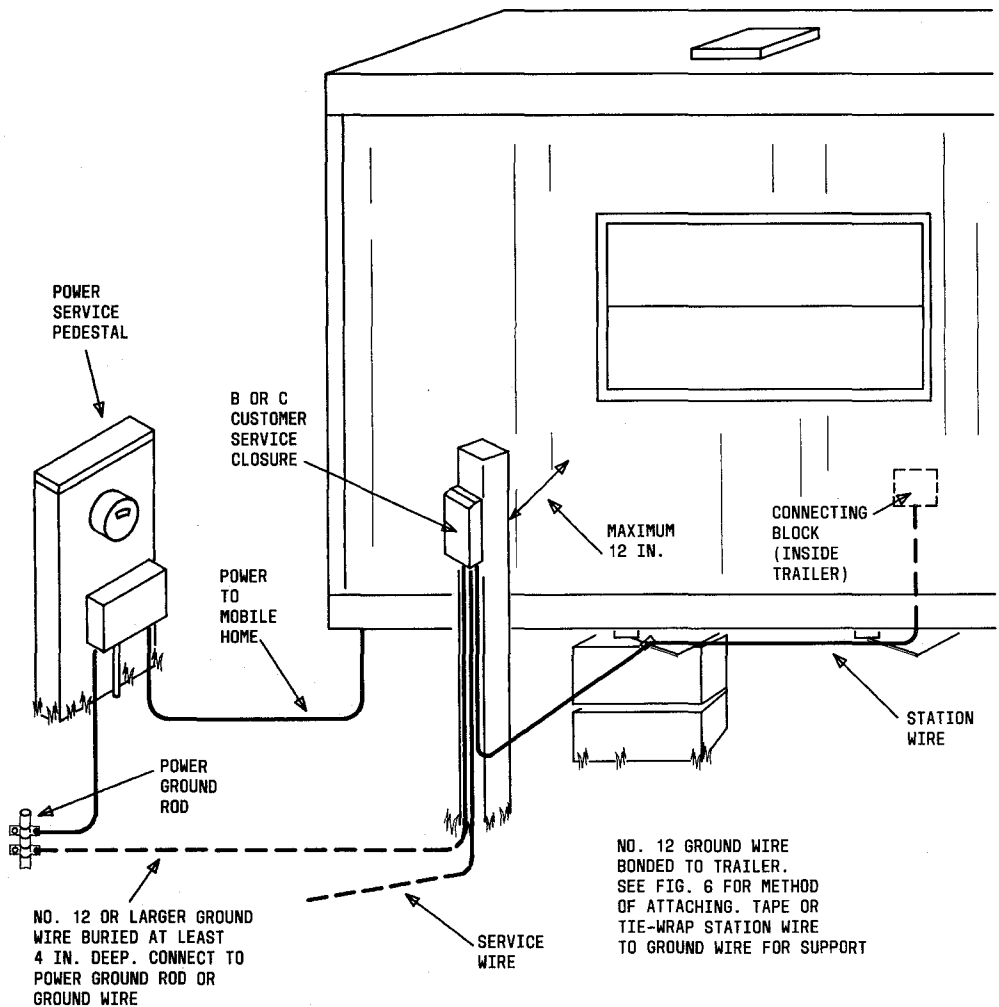
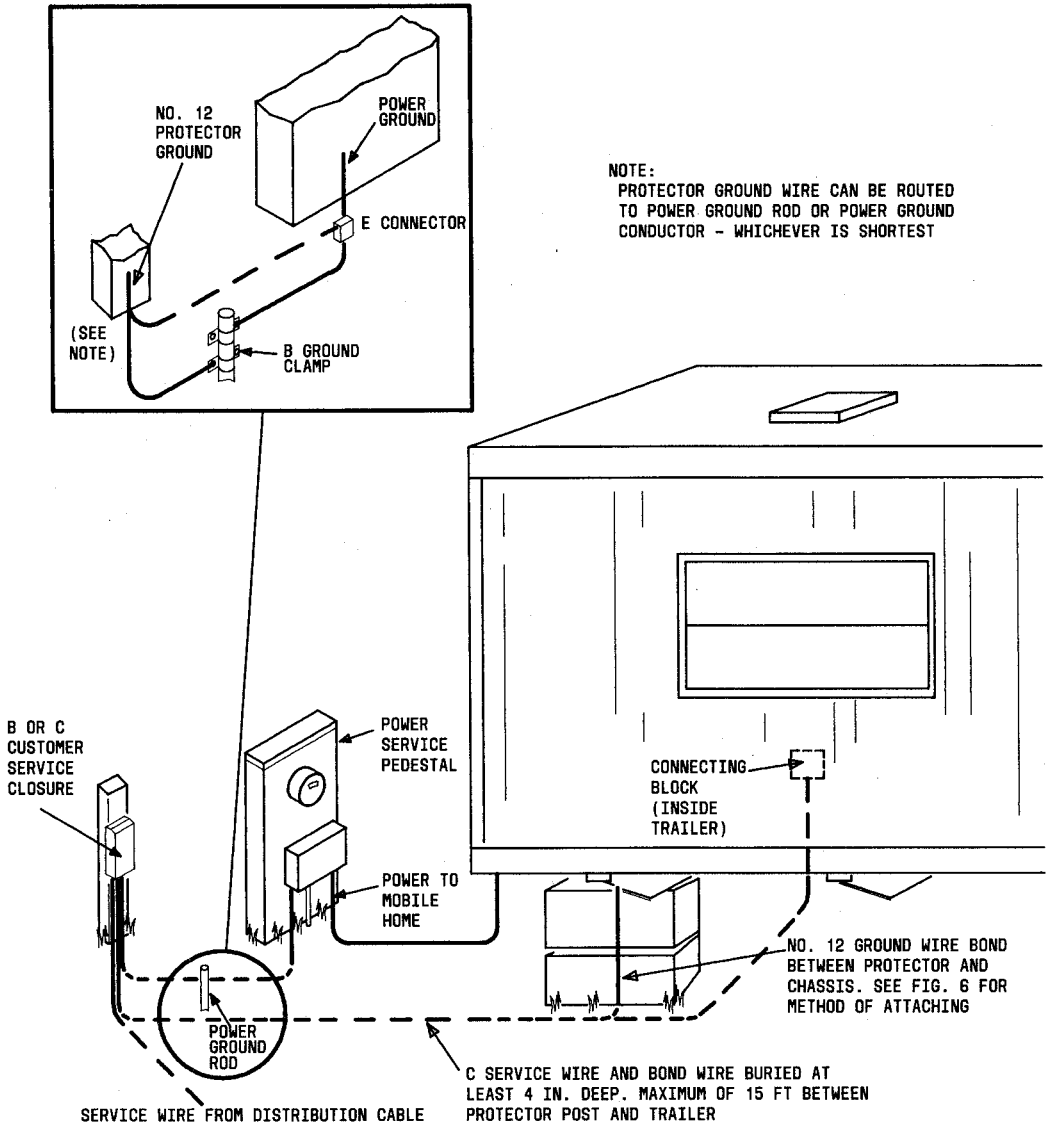

Fig. 3—Buried Service—Protector Located Within 12 Inches of Mobile Home—Protector Grounded to Power Ground
Fig. 5—Buried Service—Protector Located More Than 12 Inches From Mobile Home—Protector Grounded to Power Ground
3.01 The protector should be located as near as possible to the mobile home, preferably within 12 inches but not more than 15 feet away (Fig. 3, 4, and 5). Do not attach to or mount anything on the outside surface (skin) of the mobile home as the skin may be easily damaged and cause interior damage to the mobile home if penetrated.
5.02 Where the protector is located within 12 inches of the mobile home, the bond wire may be run directly across the space between the mounting post and the mobile home (Fig. 3 and 4). However, where the protector is located more than 12 inches from the mobile home, the ground wire must be run down the post using approved fasteners and buried at least 4-inches deep between the bottom of the post and the mobile home (Fig. 5).